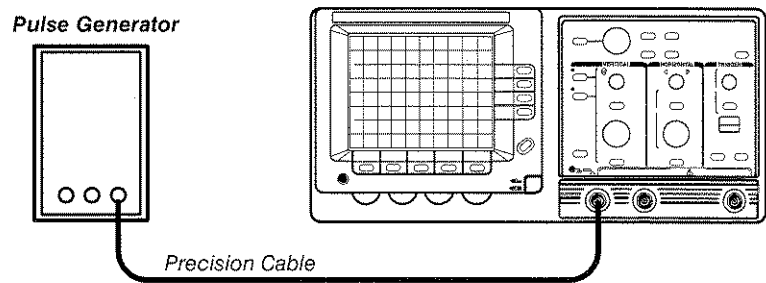

Figure 6-9: X-Axis Gain Test Setup
**Equipment Required:** One pulse generator (item 10) and one precision coaxial cable (item 5).
2. Connect the output of the pulse generator to the **CH 1** input as shown Figure 6-9.